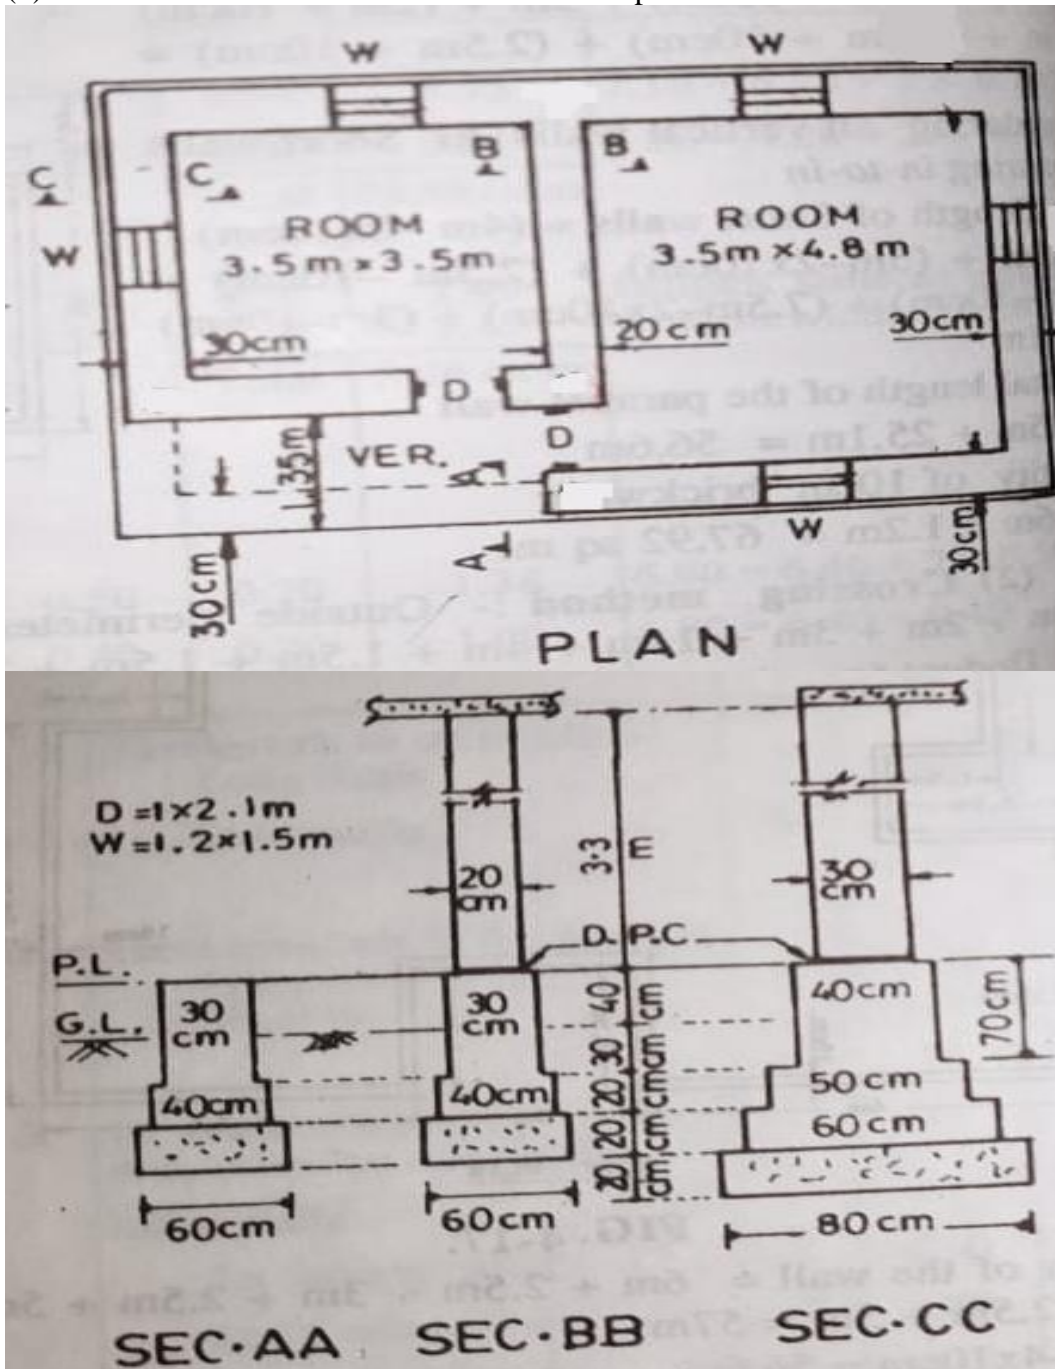

Fig.2
- 8 Estimate the quantities of the following items of a two roomed building from the given plan and sections as shown in Fig.2. [L3][CO1] [12M]
- (1) Earthwork in excavation in foundation
- (2) Lime concrete in foundation
- (3) 1st class brick in 1:6 cement mortar in foundation and plinth
- (4) 2.5 cm thick damp proof course and
- (5) 1st class brickwork in 1:6 cement mortar in superstructure.